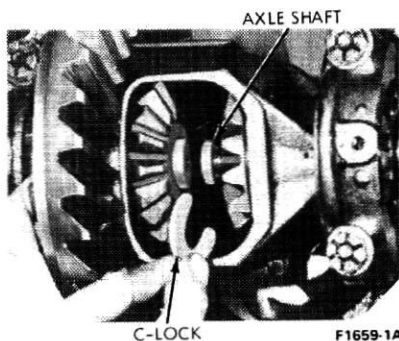

FIG. 3 Removal and Installation of C-Locks and Axle Shaft
8. Push the axle shaft(s) inward toward the center of the axle housing. Remove the C-lock(s) (Fig. 3) from the inner end of the axle(s). Remove the axle shaft(s) from the housing. **Extreme care must be used to avoid contact of the axle shaft seal lip with any portion of the axle shaft except the seal journal.**
6. Install the axle shaft C-lock(s) on the inner end of the shaft(s) (Fig. 3) and push the shaft(s) outward so that the shaft locks seat in the counterbore(s) of the differential side gear(s).